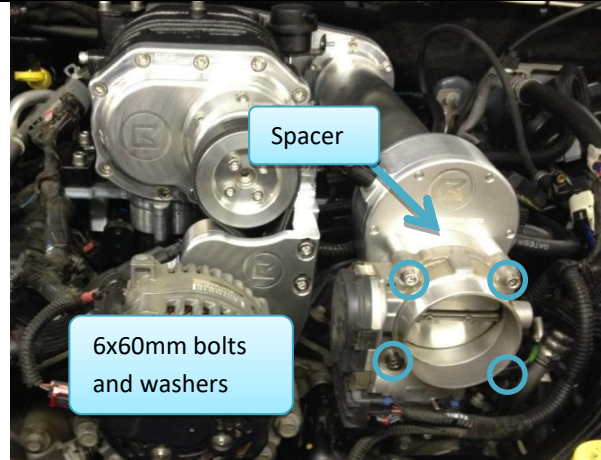

Figure 67: Throttle body properly installed with butterfly actuator on passenger side.
43.1. Install with same orientation as it was stock (Figure 67)